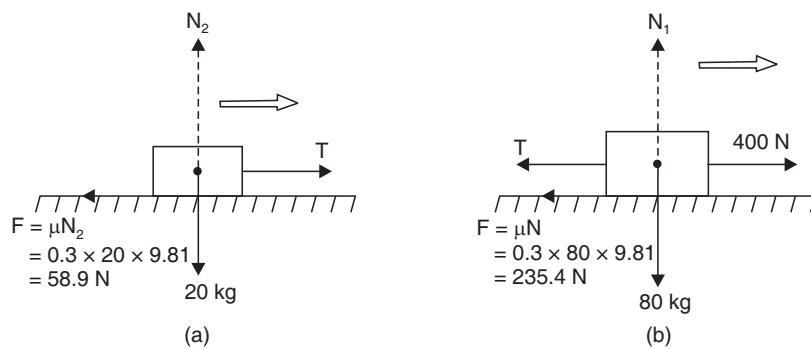

Fig. 8.6
**Example 8.15.** Two bodies of masses 80 kg and 20 kg are connected by a thread and move along a rough horizontal surface under the action of a force 400 N applied to the first body of mass 80 kg as shown in Fig. 8.6. The co-efficient of friction between the sliding surfaces of the bodies and the plane is 0.3.
Considering free body diagrams of the masses 80 kg and 20 kg separately as shown in Fig. 8.6 (a) and (b).
Applying D' Alembert's principle for Fig. 8.6 (a), we get
Now, applying D' Alembert's principle for Fig. 8.6 (b), we get